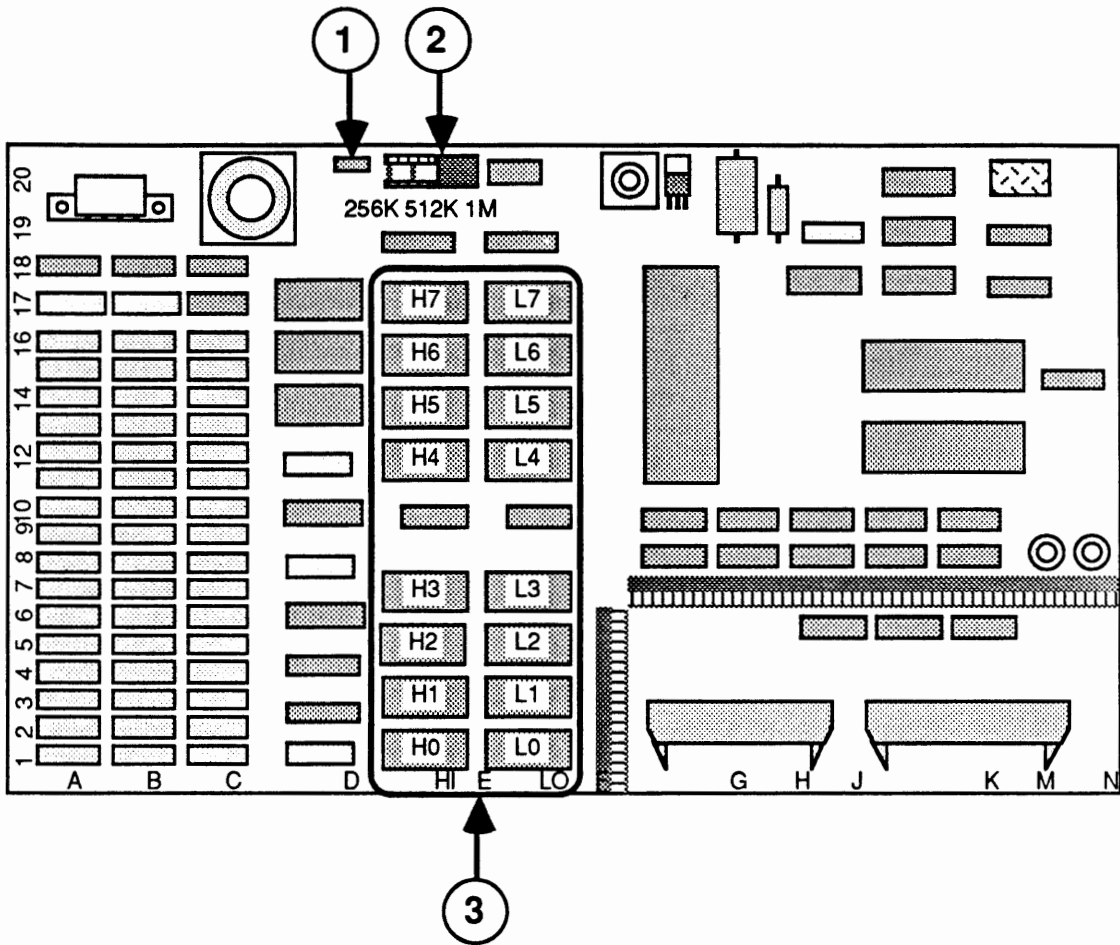

FIGURE 3
9. One at a time, carefully remove the new ROMs from their antistatic pad, **handling them by the body, not the leads**. Match the markings on the ROMs with the appropriate socket (see Figure 3, #3). Install the ROMs, making sure that the notch along the edge is on the left.